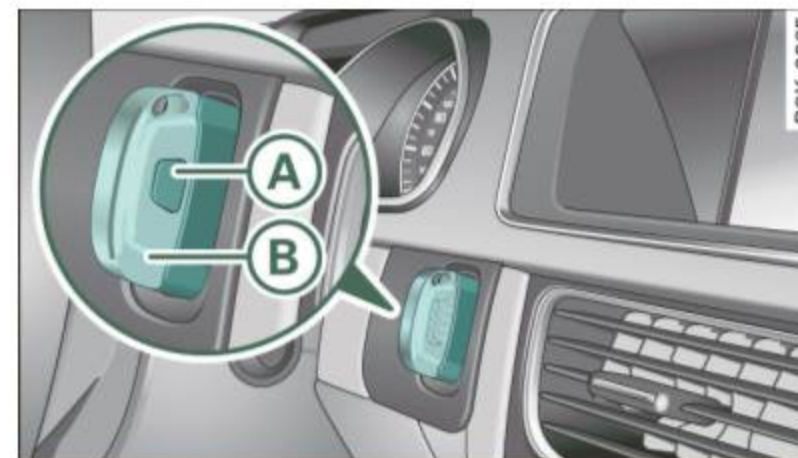

Fig. 36 Ignition switch with ignition key
- Press the release button **A** ⇒ fig. 36 for example with a ball point pen and pull the mechanical key **B** out of the master key.